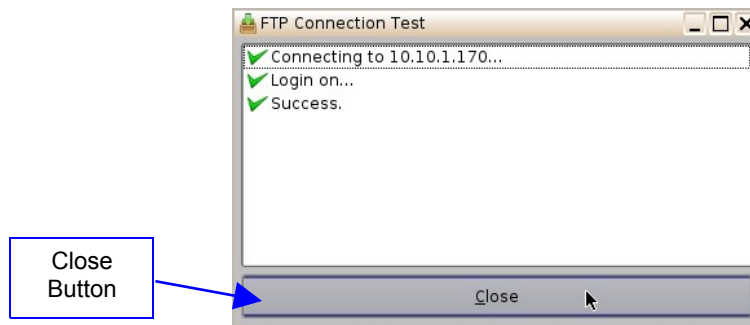

Figure 49: FTP Connection Test Window
- Optional: Click the Test button to test the IP connection. A pop-up window will appear that will test the connection (Figure 49). Click the Close button to exist this window.